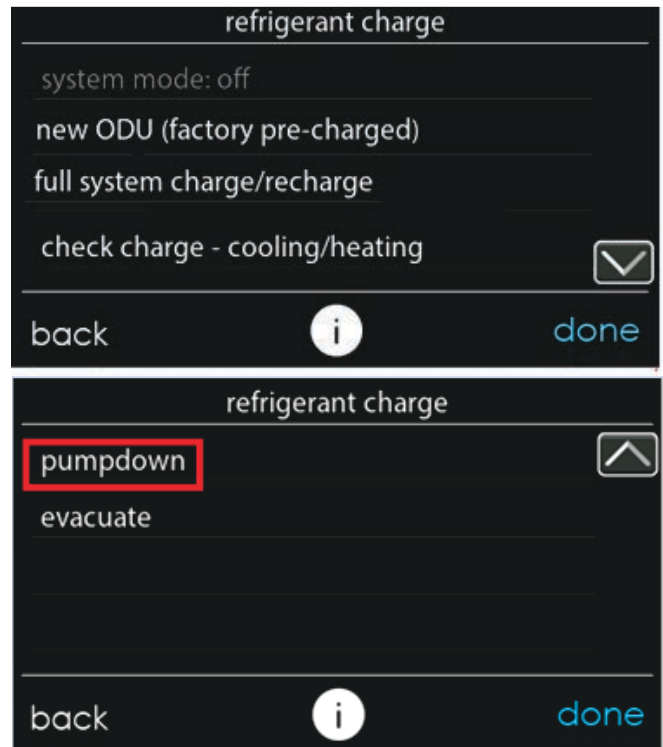

Fig. 24 – Pump Down and Evacuation Selection
2. In the "installation and service" menu of the Infinity® System Control (see Fig. 12), go to "refrigerant charging" and then "pump down" (see Fig. 13 and Fig. 24).